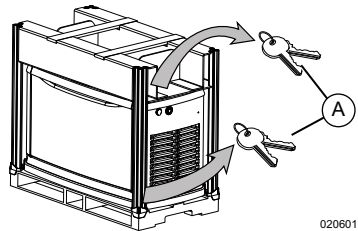

Figure 2-1. Crated Generator and Keys
2. See **Figure 2-1**. Remove and secure keys (A). A set of keys is attached to the cardboard sheet on top of unit. An additional set is attached to the pallet bracket on the front intake end of unit. Remove keys from cardboard and pallet bracket. Remove packaging supports.